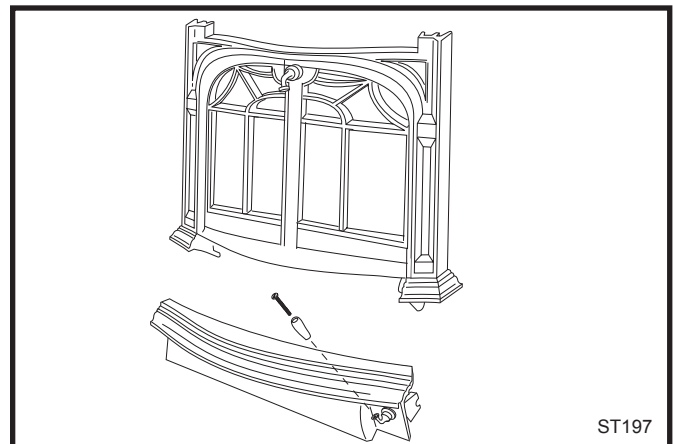

Fig. 27 Attach the handle to the control door.
- Attach the wooden handle to the control door using the #8-32 x 2" screw from the parts bag. (Fig. 27)